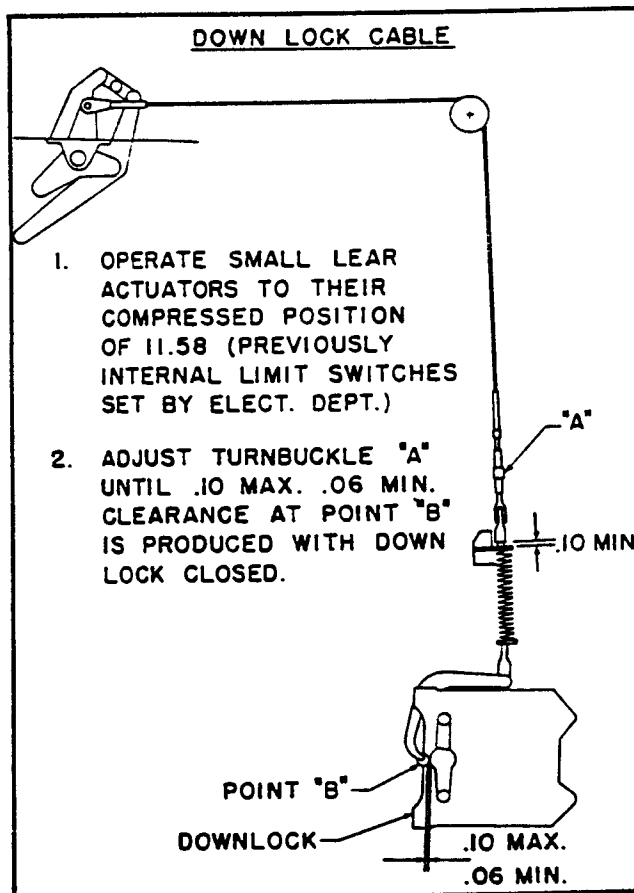

Figure 33. Rigging Main Gear Emergency Control Cables
- j. Attach downlock cables at point "X" and adjust as shown on figure 33.